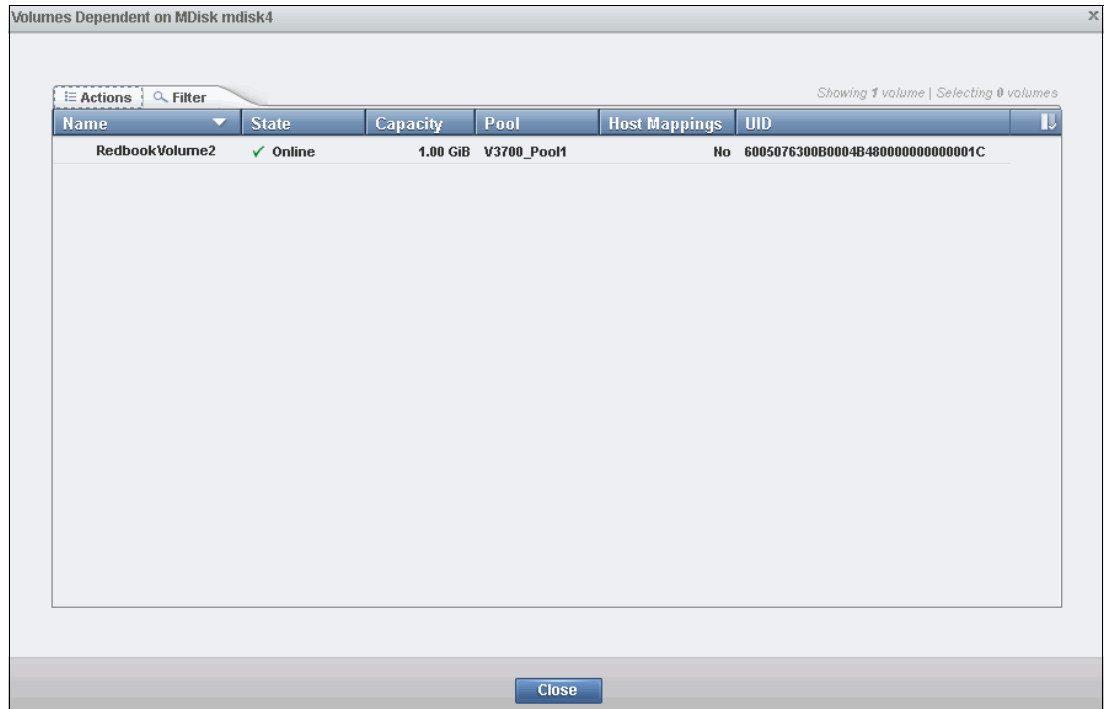

Figure 7-53 Show dependent volumes
- a. Figure 7-53 shows the volumes that are dependent on an MDisk.